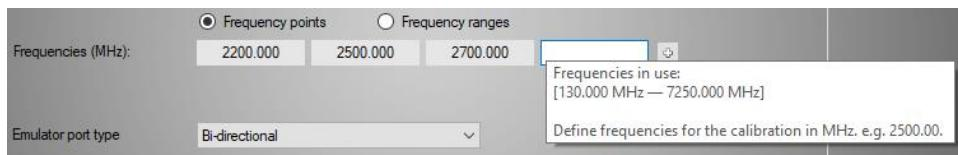

Figure 240 Frequency tooltip.
- Limits are shown in tooltip (see Figure 240).